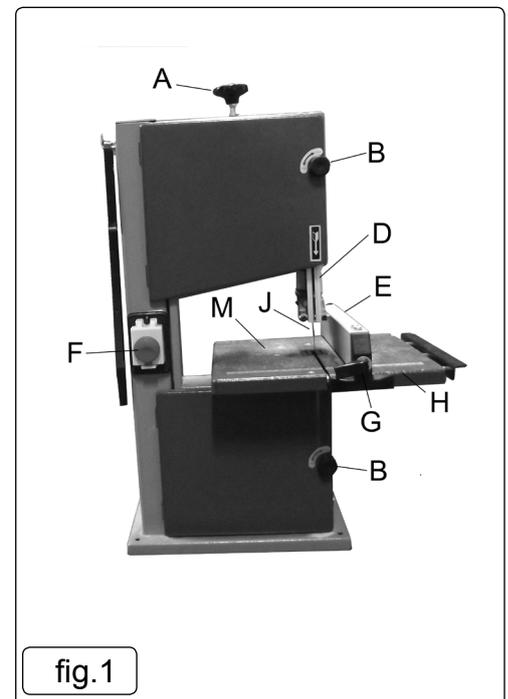
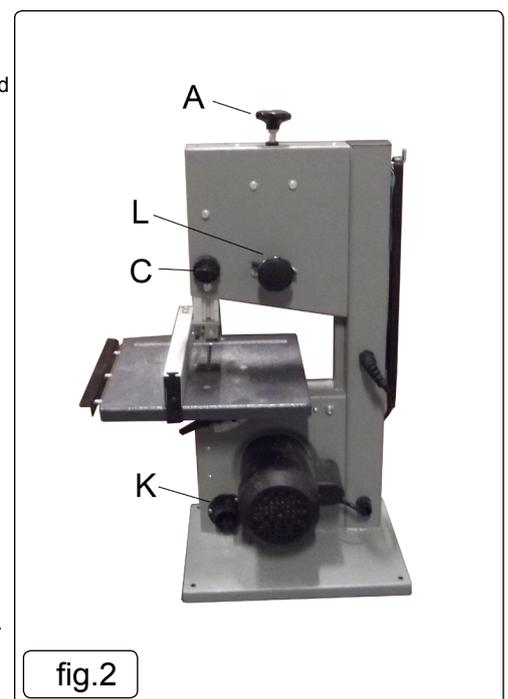

fig.1
fig.2
MAIN FEATURES (fig.1 / fig.2)
Carefully place worktable (fig.1.M) onto its supporting base, whilst sliding saw blade through its slot in the table. Fix to base with three bolts, nuts and washers supplied. Before finally tightening these, check that the table blade slot and saw blade are in line, set correctly and then tighten all fixings. Using a square backed up to the saw blade, check that the worktable is square to the saw blade, if any adjustment is needed slacken the two knobs underneath the worktable near the angle scale, set table to correct angle, tighten the two knobs and then adjust the nut and bolt underneath the rear of worktable so that the worktable is just resting on the bolt head. Secure bracket across the saw blade slot using two bolts and two plastic knobs.
- 5.3.2. If adjustment is needed, turn the tracking knob (fig.2.L) whilst continuing to turn the upper blade wheel. Note the effect on the tracking and continue to turn tracking knob until tracking is correct.
Loosen the locking knob and turn the adjustment knob (fig.2.C) to lower the guide to required position. Tighten locking knob.
- 5.9.1. The fence (fig.1.E) is mounted on the table side guide (fig.1.H).
- 5.9.2. To reposition or remove the fence, push up locking handle (fig.1.G). To refit the fence, slide onto work table from the front or back as required. Push down handle (fig.1.G) to lock when fence is in required position.